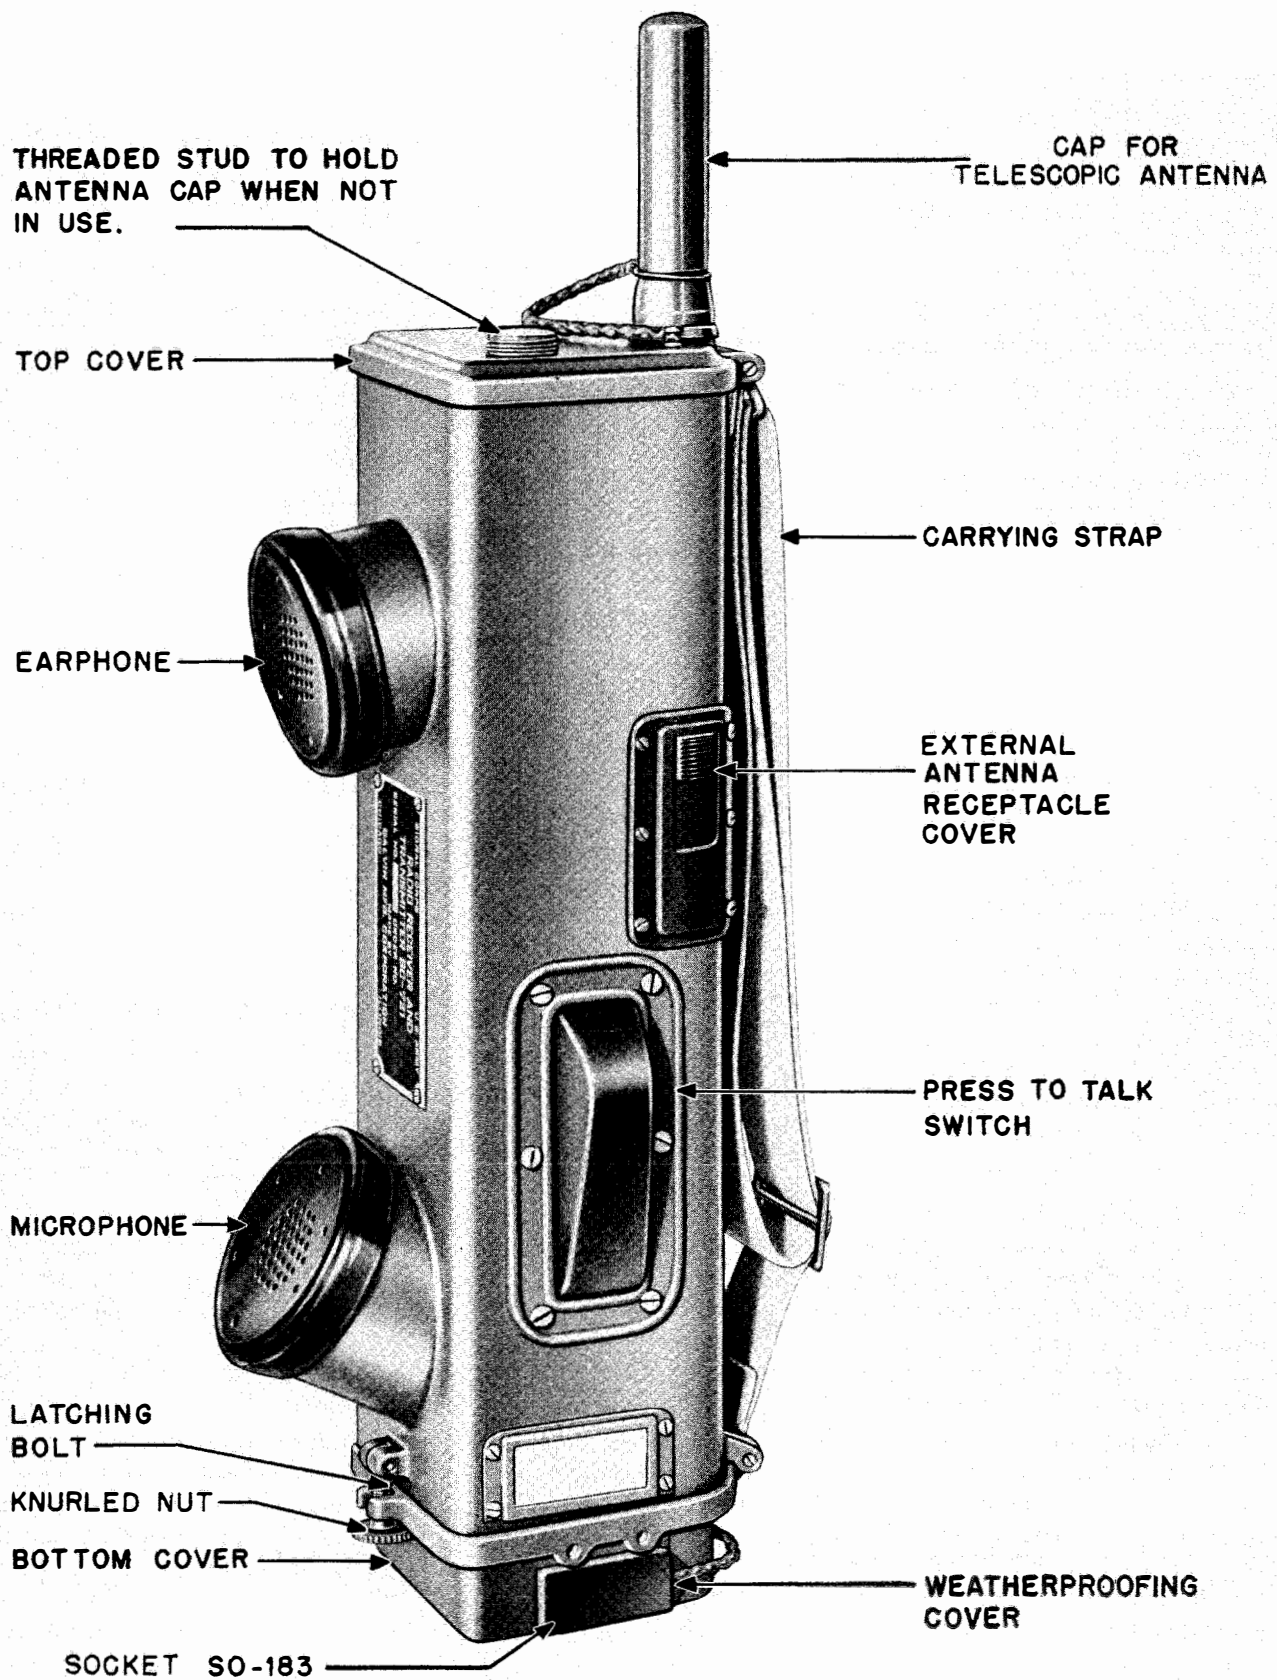
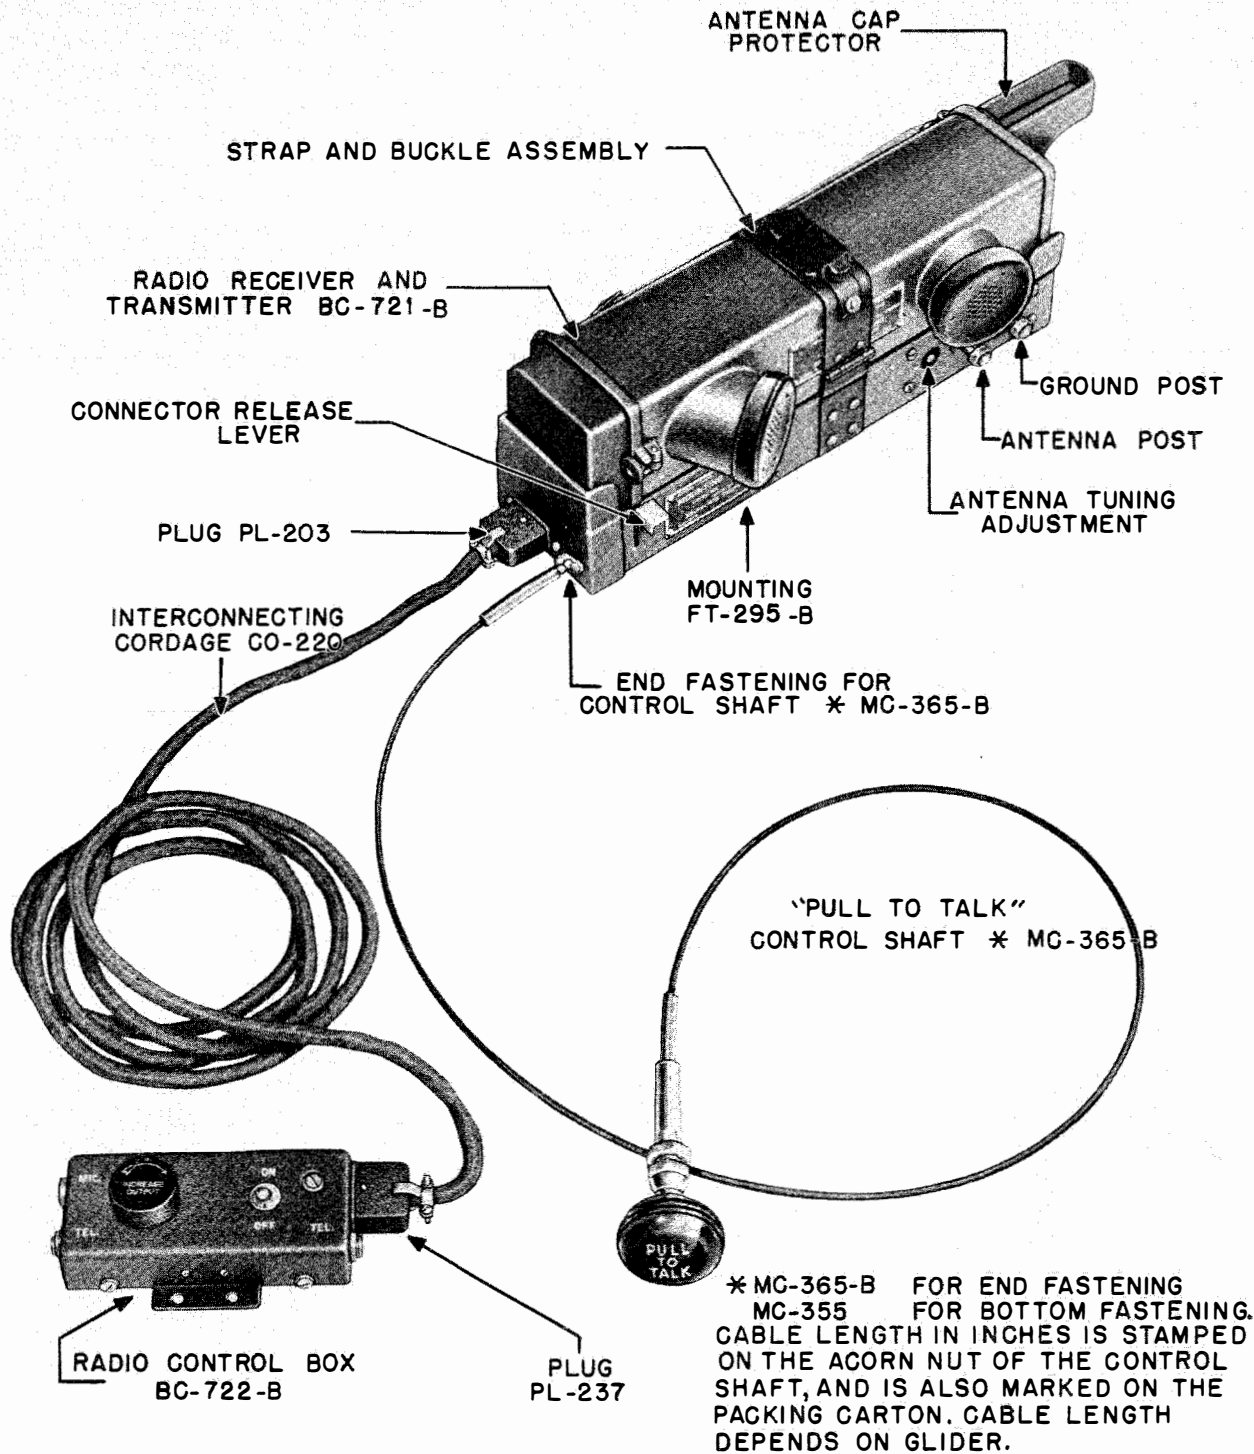

FIG. 2. RADIO RECEIVER AND TRANSMITTER BC-721-B
FIG. 3. RADIO SET SCR-585-B, USING END-FASTENING CONTROL SHAFT MC-365-B
d. By unbuckling the strap and buckle assembly, shown in Fig. 3, and pushing the connector release lever, Radio Receiver and Transmitter BC-721-B is released and becomes a "press-to-talk" self-contained portable radio telephone with attached earphone and microphone resembling an ordinary hand telephone set. Radio Receiver and Transmitter BC-721-B when operated in this manner is automatically turned on when the self-contained telescopic antenna is fully extended. No volume control is used with the radio receiver and transmitter when it is used as a portable radio telephone. See Fig. 2.
A "press-to-talk" switch is mounted on the side of the case, and operates the change-over switch on the radio chassis which converts the set from a receiver to a transmitter. This switch is so located that when the set is held in the left hand, the switch may be operated easily with the fingertips. See Fig. 2.
d. "PULL-TO-TALK" Control Shafts MC-355 or MC-365-B.—This assembly consists of a flexible housing and Bowdin wire, together with the necessary mounting fittings and control knob. It is fastened at either the end or bottom of Mounting FT-295-B and actuates the Send-Receive switch in Radio Receiver and Transmitter BC-721-B. See Figs. 3 and 4.
c. Mounting FT-295-B is shipped from the factory with the female connector mounted either in the end or bottom of the mounting, as ordered. See Fig. 3 and 4. When this connector is fastened in the bottom of the mounting, the opening provided for end fastening is covered with a plate held in place by two screws. To change to end mounting, remove the plate and the screws holding the connector on the bottom of the base. Move the connector into position on the end of the base, using the two original mounting screws.
a. Slide the external antenna receptacle cover down, exposing the antenna receptacle. See Fig. 2.
b. Be sure that the telescopic antenna is pushed down into position and the antenna cap is in place, as shown in Fig. 2.
c. Remove the waterproof protective cover from the hinged base Socket SO-183. See Fig. 2.
d. Place Radio Receiver and Transmitter BC-721-B on Mounting FT-295-B, as shown in Fig. 3, and fasten the strap and buckle assembly. Care should be used when placing the unit on Mounting FT-295-B to keep the antenna cap chain clear of the antenna cap protector casting. This may be done by keeping the chain on the carrying strap side of the antenna guard.
e. Connect the glider antenna to the antenna binding post marked "A" on Mounting FT-295-B. See Fig. 3.
Control Shaft MC-365-B is for end fastening to Mounting FT-295-B. Control Shaft MC-355 is for bottom fastening to Mounting FT-295-B. See Figs. 3 and 4.